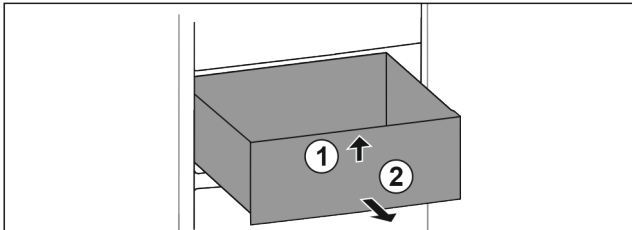

Fig. 118
- ▶ Lift up drawer at the front. Fig. 118 (1)
- ▶ Remove drawer to the front. Fig. 118 (2)